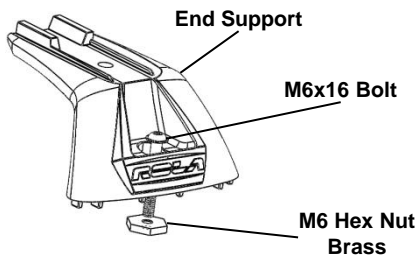

Fig. 3
- Assemble bolt M6x16 into End Support and thread on M6 Hex nut brass onto bolt, (Fig. 3)